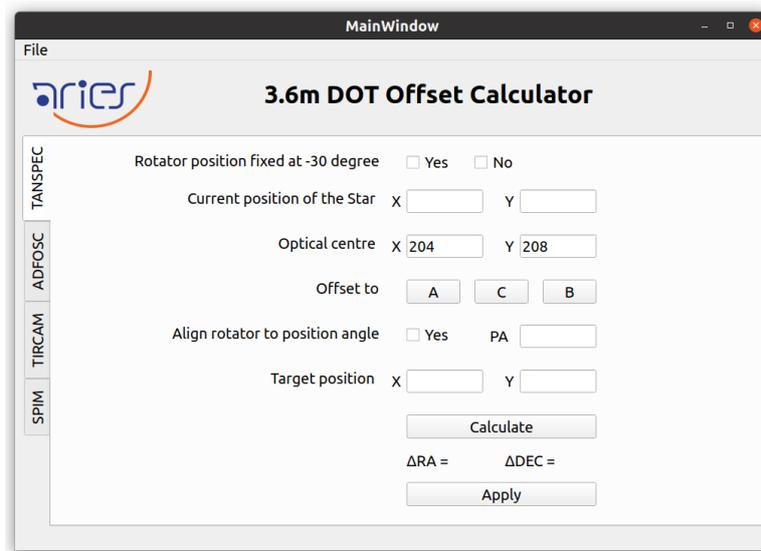

Figure 10: TANSPEC offset calculator
- If there is an offset in pointing (or the target is not within the slit for spectroscopy). The offset calculator software (shown in Figure 10) for DOT can be used to apply. Refer to the offset calculator manual to understand how to use it.